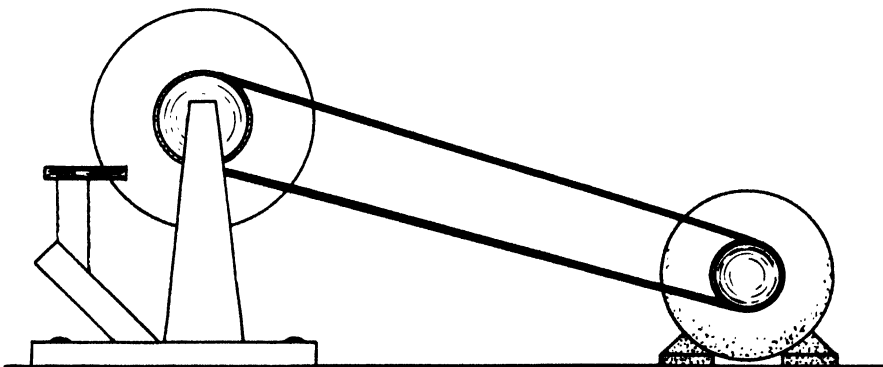

FIG. 46. GRINDER.
2. Find the peripheral speed (rim speed) of the grinding wheel, Fig. 46, in (a) feet per minute (f.p.m.) and (b) in miles per hour (m.p.h.) The diameter of the motor pulley (D) is 2.5" while that of the grinder pulley (d) is 3". The motor speed is 1750 r.p.m. and the diameter of the carborundum wheel is 6".